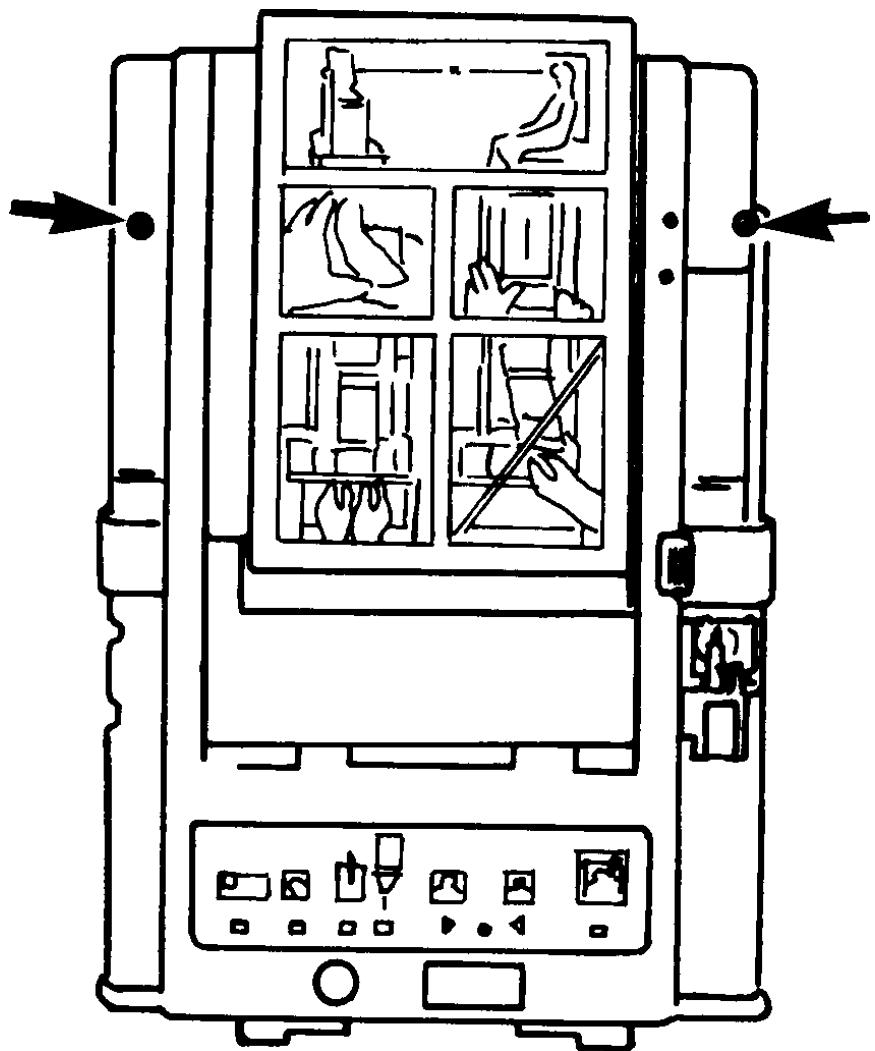

Figure 4-5 Back Cover Screw Removal
1.8 Remove two recessed screws at top of Back Cover. (Fig. 4-5)